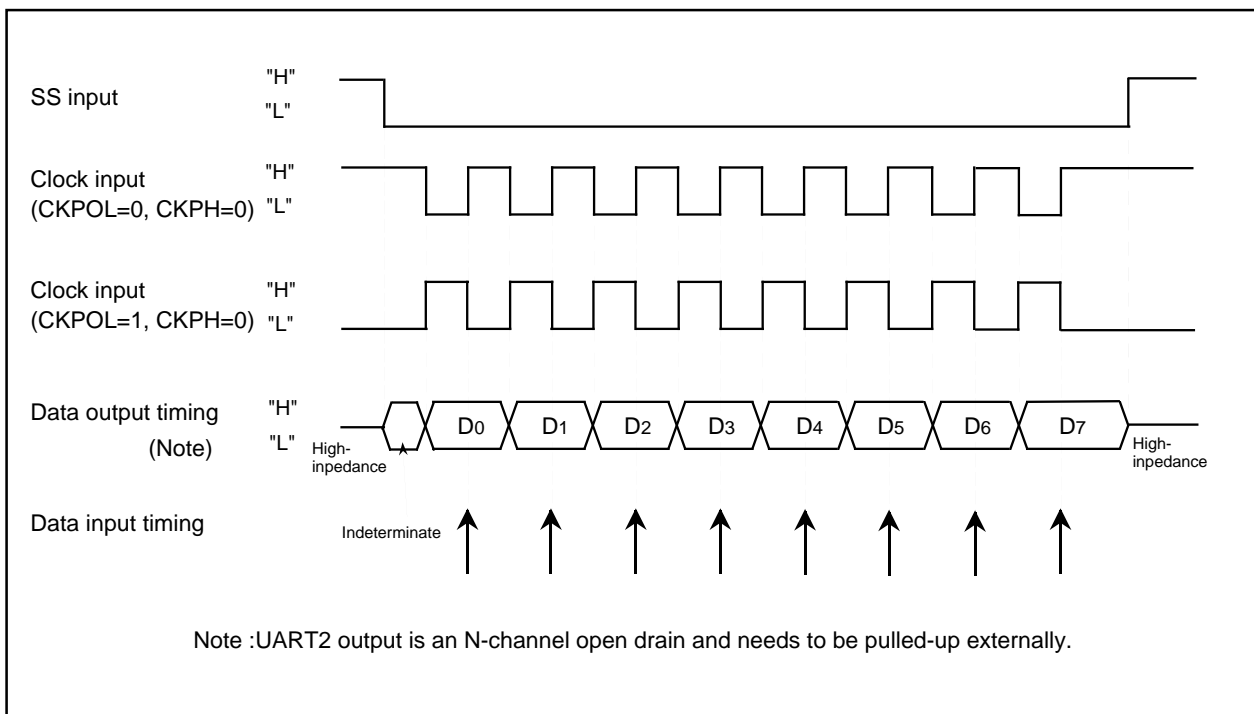

Figure 1.21.8. The transmission and reception timing (CKPH=0) in slave mode (external clock)
- With "0" for CKPH bit (bit 1 of UiSMR3 register), when an \overline{SSi} input pin is H level, output data is high impedance. When an \overline{SSi} input pin is L level, the serial transmission start condition is satisfied, though output is indeterminate. After that, serial transmission is synchronized with the clock. Figure 1.21.8 shows the timing.